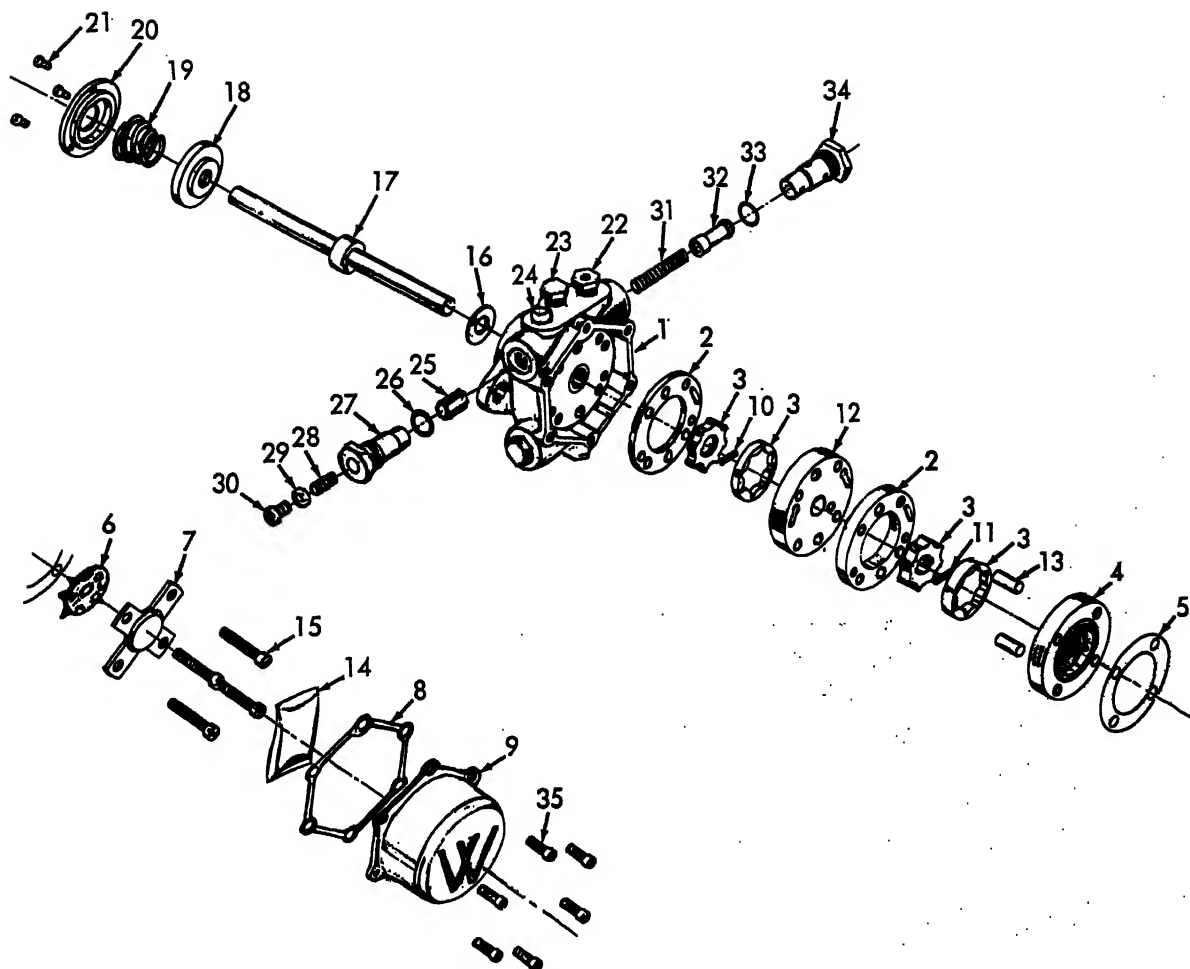

FIGURE 58. Fuel Pump, disassembly
1. Refer to Fig. 58 and reassemble the fuel pump.